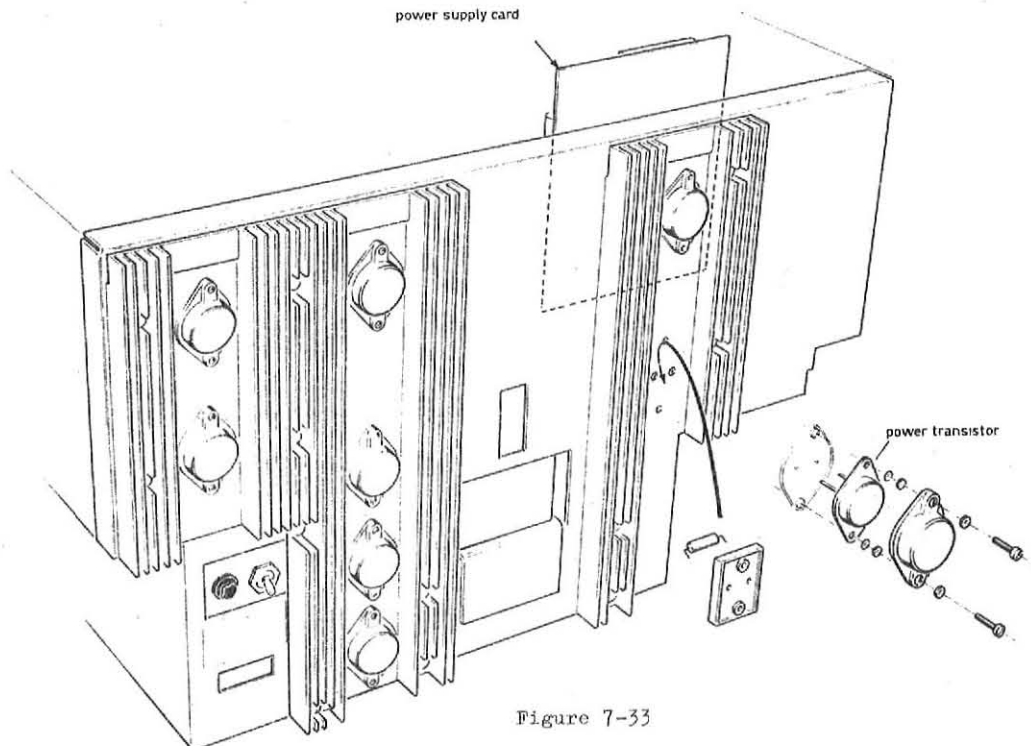

Figure 7-33
5.10 POWER SUPPLY CARD (figure 7-33)
5.11 POWER TRANSISTORS (figure 7-33)